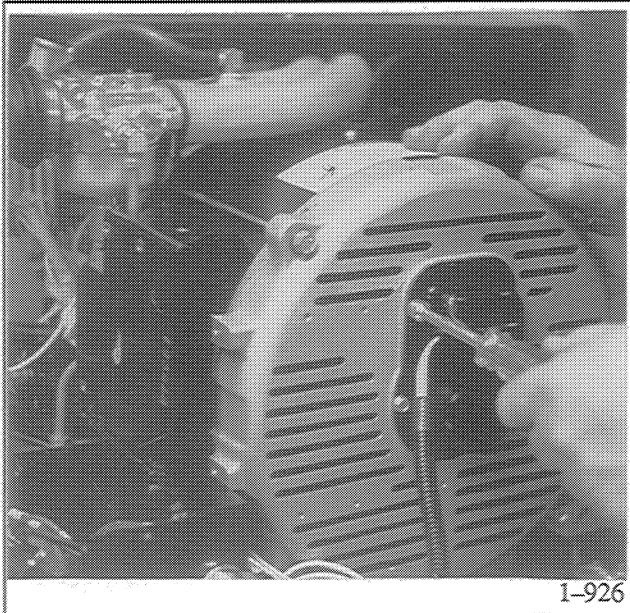

Figure 8-11. Removing Brush Cover
15. Remove four screws and brush cover using 5/16 in. socket wrench. See Figure 8-11.